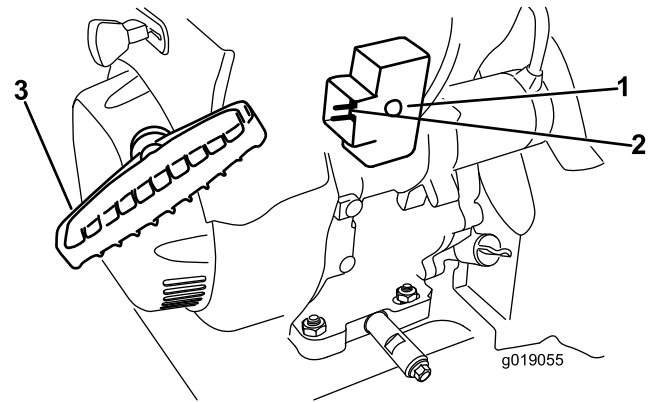

Figure 31
7. Start the machine by pulling the recoil starter or pressing the electric-starter button (Figure 31).